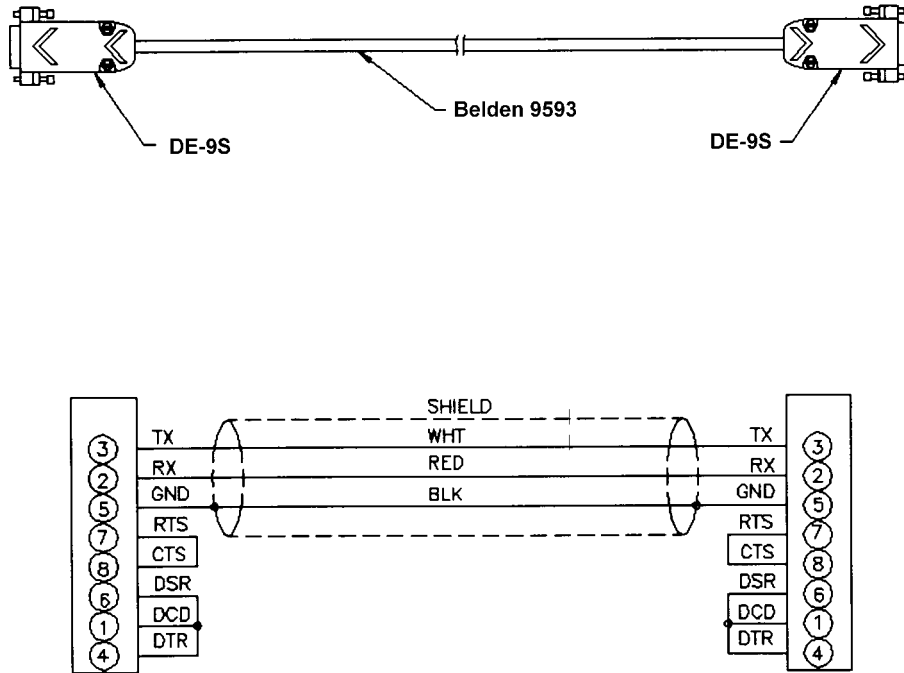

Figure 10 - RS232C Wiring
This connector is used to output up to five(5) digital outputs. Refer to Figure 10 on page 9 for more information.
Each DSM3400 has two Serial connections. The connections conform to the RS232C standard. The connector wiring is shown in Figure 10 below.
A DSM may be configured to output commands and receive data from external Serial devices. A wiring diagram is shown in figure10.